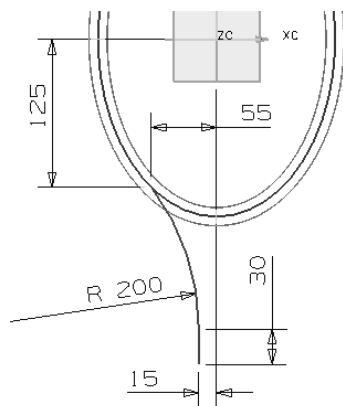

Figure 11-108 The dimensions for the guide curve of the sweep surface
- Select the newly created plane as the sketching plane and draw the guide curve, as shown in Figure 11-108.